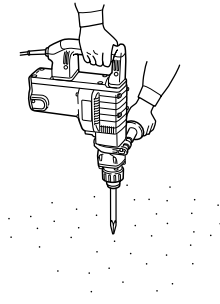

Fig. 5
2. How to chisel or crush (Fig. 5)